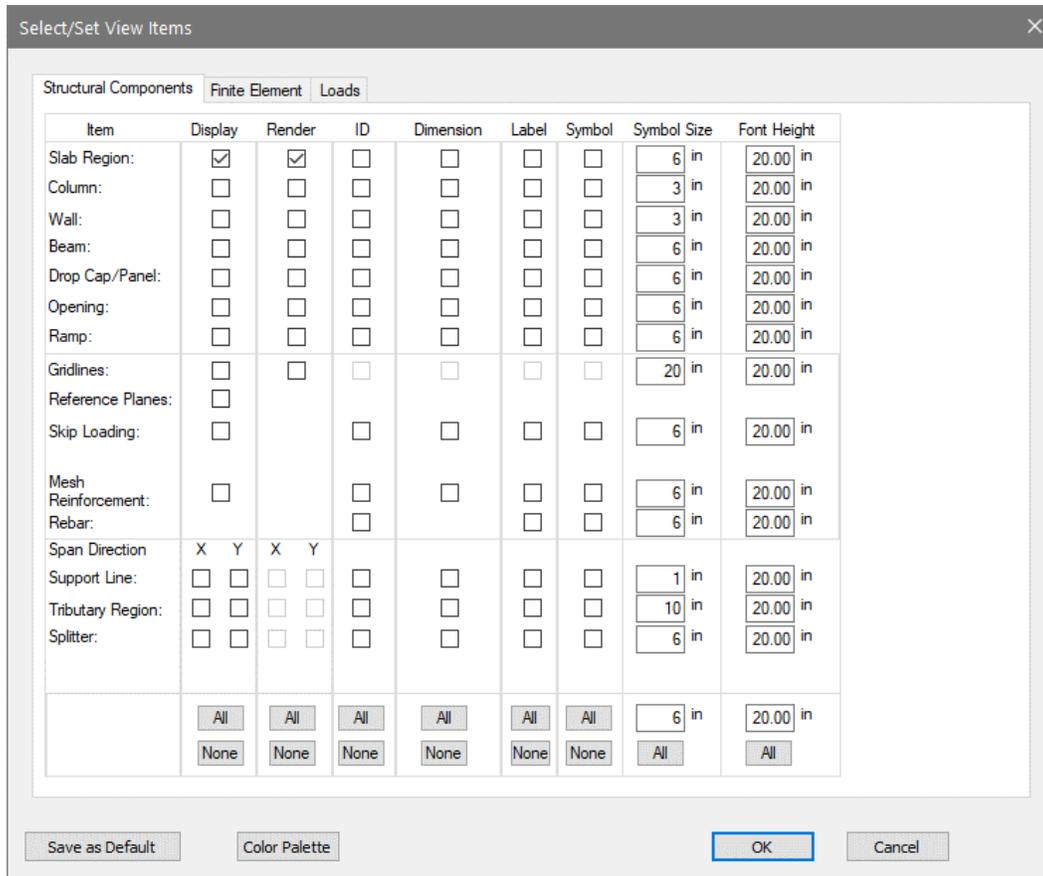

Figure 4-8
- On the *Structural Components* tab, make the selections as shown in **FIGURE 4-8** (turn on the display of slabs and reference planes).